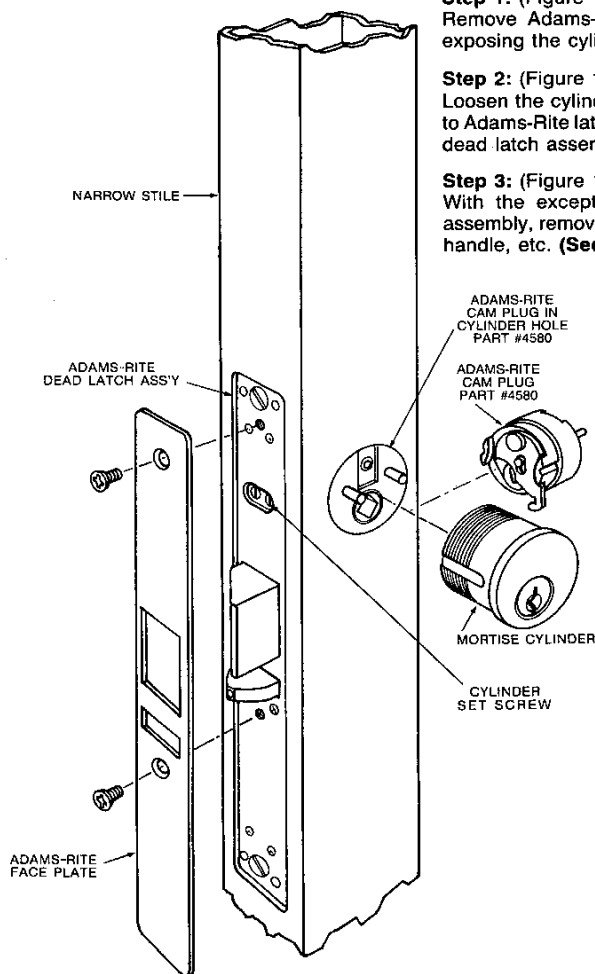

FIGURE 1
**Step 1: (Figure 1)**
Remove Adams-Rite face plate from edge of door exposing the cylinder set screws. (See Fig. 1)
**Step 2: (Figure 1)**
Loosen the cylinder set screw (securing key cylinder to Adams-Rite latch) and remove the cylinder from the dead latch assembly. (See Fig. 1)
**Step 3: (Figure 1)**
With the exception of the Adams-Rite dead latch assembly, remove all other hardware from door, knob, handle, etc. (See Fig. 1)